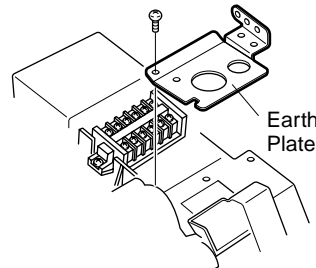

Fig. 26a
- f) Using a Phillips screwdriver, take out the screws on the earth plate. (Fig. 26a KHS09, 12 models only) Remove the earth plate.